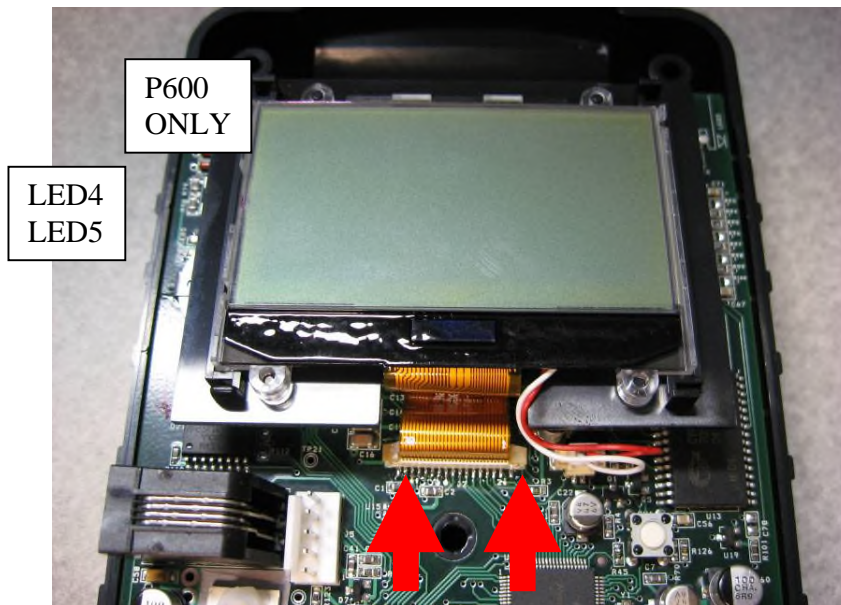

Figure 3
3. Attach display to J1 and J2. See figure 3. Set display in display holder